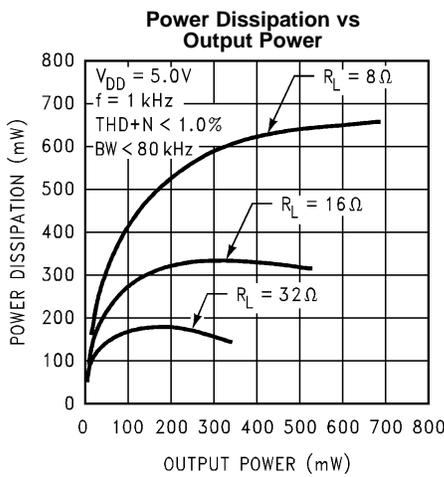

Figure 21.
- (1) All voltages are measured with respect to the ground pin, unless otherwise specified.
- (2) Absolute Maximum Ratings indicate limits beyond which damage to the device may occur. Operating Ratings indicate conditions for which the device is functional, but do not ensure specific performance limits. Electrical Characteristics state DC and AC electrical specifications under particular test conditions which ensure specific performance limits. This assumes that the device is within the Operating Ratings. Specifications are not specified for parameters where no limit is given, however, the typical value is a good indication of device performance.
- (3) Typicals are measured at 25°C and represent the parametric norm.
- (4) Limits are specified to TI's AOQL (Average Outgoing Quality Level).
- (5) Datasheet min/max specification limits are specified by design, test, or statistical analysis.
- (6) The quiescent power supply current depends on the offset voltage when a practical load is connected to the amplifier.
- (7) The NGY0010A package has its exposed-DAP soldered to an exposed 1.2in^2 area of 1oz printed circuit board copper.
- (8) The DGK008BA package is thermally limited to 595 mW of power dissipation at room temperature. Referring to Figure 21 in Typical Performance Characteristics, the power dissipation limitation for the package occurs at 300 mW of output power. This package limitation is based on 25°C ambient temperature and $\theta_{JA} = 210^{\circ}\text{C}$. For higher output power possibilities refer to POWER DISSIPATION.